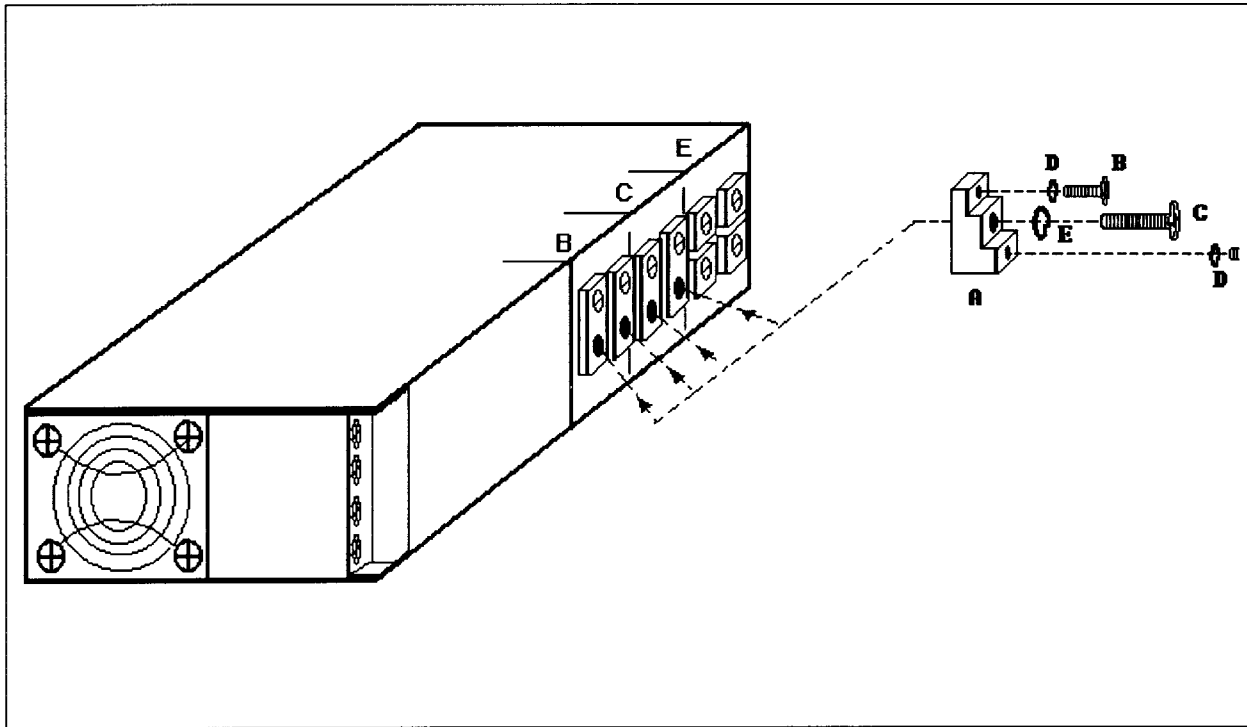

Figure 1 - Fitting Parts from Adaptor Kit to PSU Module Low-voltage Connector Block
13. Fit the parts from the Adaptor Kit to the PSU Module Low-voltage Connector Block as shown in Figure 1.